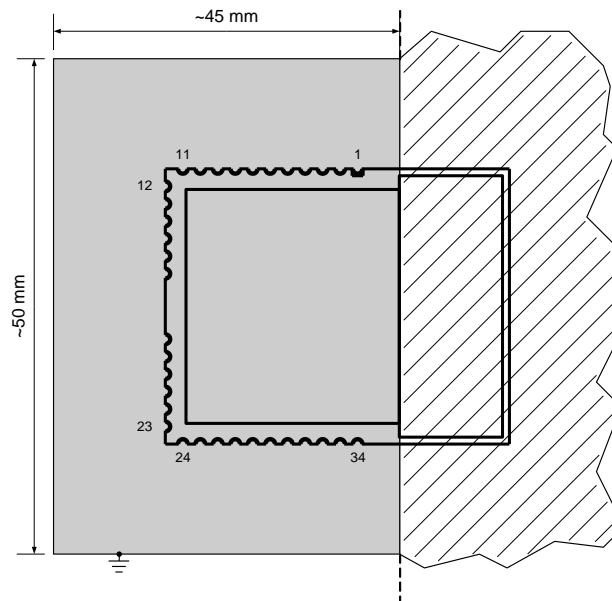

Figure 4-2: Recommended Environment
- As shown in Figure 4-2, the solid grey area must be a ground-plane on the Bottom Layer (or Layer 2 in a multi-layer structure) of the carrier board. Antenna matching and all other measurements have been done with these dimensions.
- The hatched area shown in Figure 4-2 has to be free of material (e.g. PCB, metal, housing). If possible, the distance from the antenna area to any material should be at least $\lambda/2$ ^{see 1}.
| Figure 4-2: Recommended Environment..... | 14 |